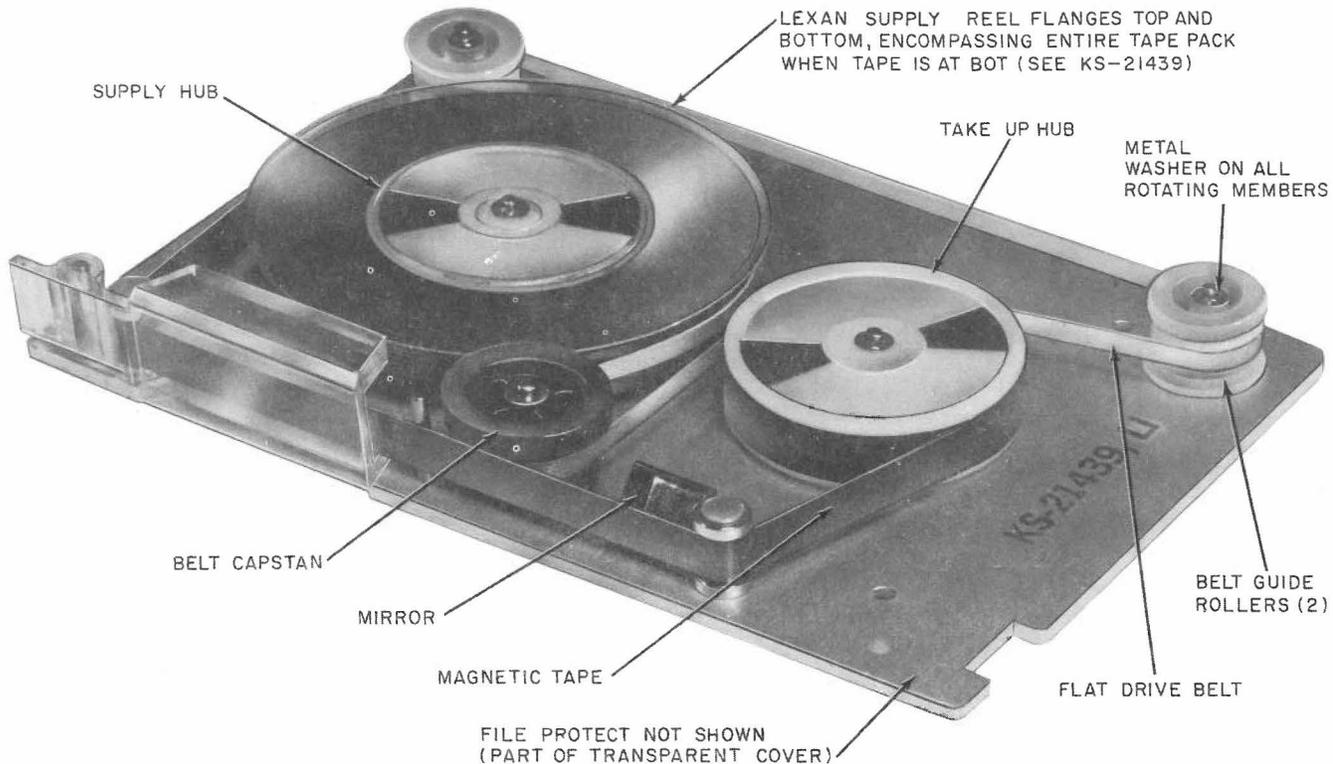

Fig. 1—KS-21439 Data Cartridge (Cover Removed)
1.01 This section covers the KS-21439 1/4-inch tape data cartridge (Fig. 1) which is used with the KS-21447 mini-recorder.